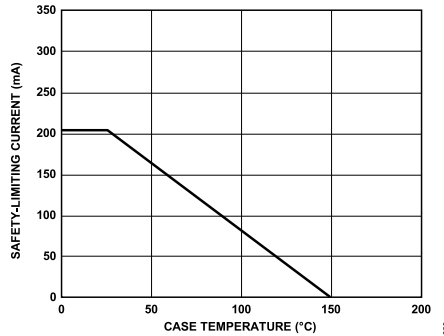

Figure 3. Thermal Derating Curve, Dependence of Safety-Limiting Values on Case Temperature, per DIN VDE V 0884-11:2017-01
| Safety Limiting Values | Maximum value allowed in the event of a failure (see Figure 3) | | | |
- ² See Figure 3 for maximum rated current values for various temperatures.